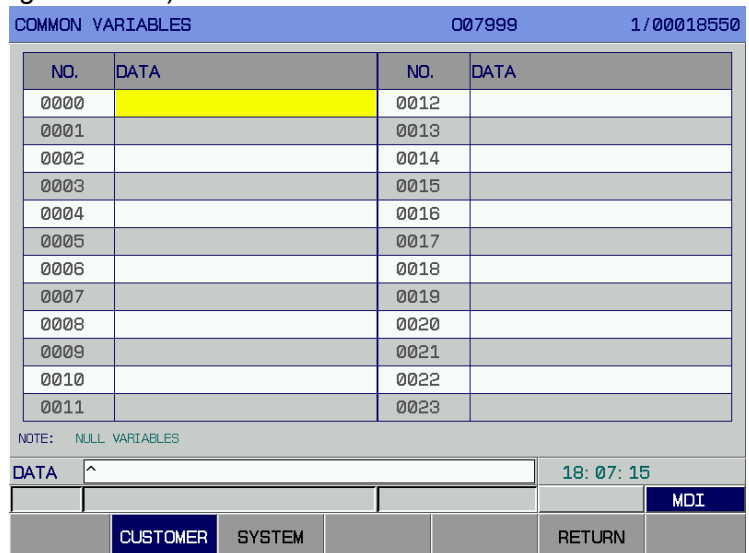

Fig. 3-3-3-1-1
- 1) for **User variables page**, press the [User variable] soft key to enter the user variables interface (see Fig. 3-3-3-1-1).
- 2) for **System variables page**, press the [System variable] soft key to enter the system variables interface (see Fig. 3-3-3-1-2).